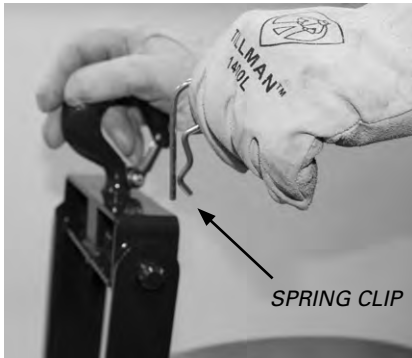

Figure 4a
1. To unload the EZ Sheave™ Radius Sheave, remove the spring clips (Part #406-3) from the tabs located at the top of the yoke frames near the hooks. (See Figure 4a).